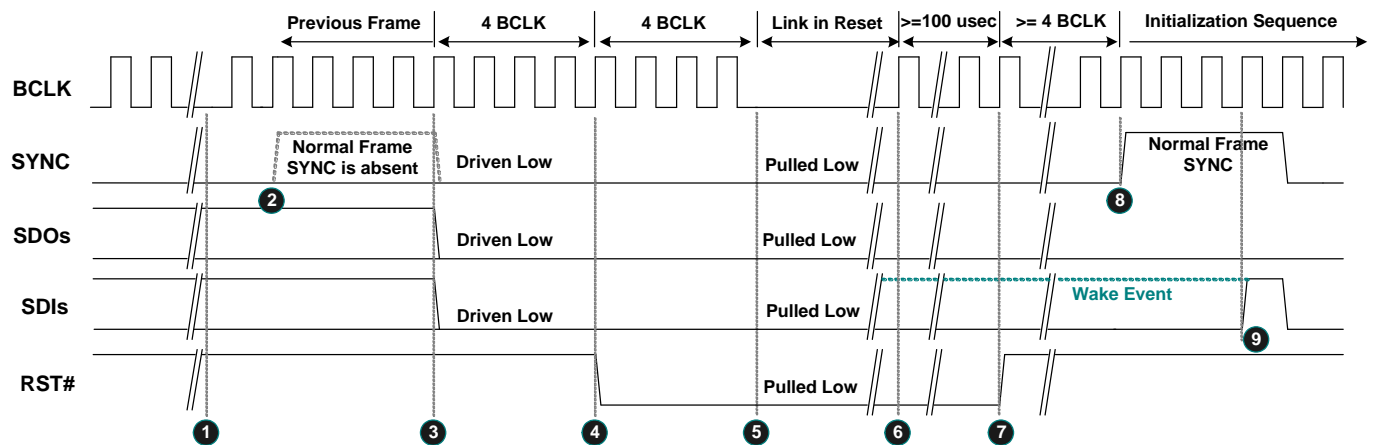

Figure 14. Link Reset Timing
3. Software initiates power management sequences. Figure 14, page 22, shows the 'Link Reset' timing including the 'Enter' sequence (❶~❸) and 'Exit' sequence (❹~❺)